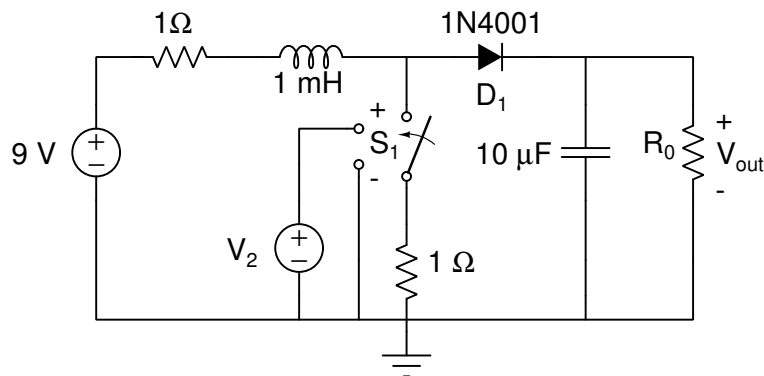

Figure 4: Test circuit representation of the boost circuit for Micro-Cap simulation.
10. Use Micro-Cap to simulate the boost-circuit shown in Figure 4.